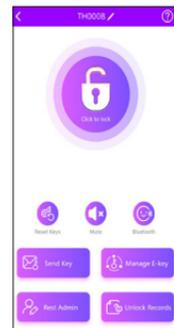

Fig. 25
- : Tap to lock. Make sure the Web icon is lit up (). (Fig.25).